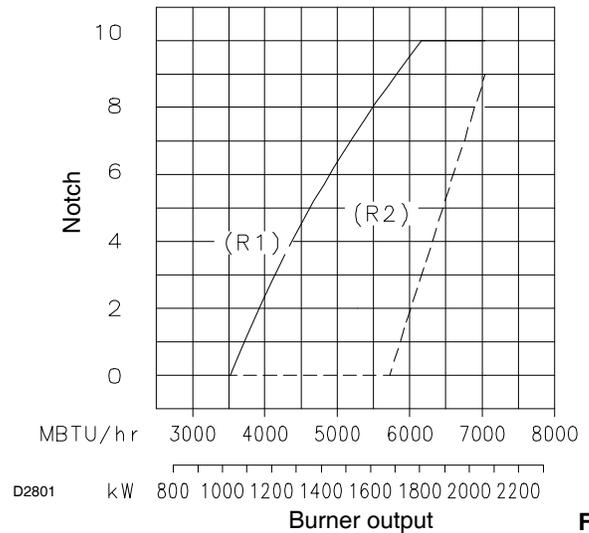

Fig. 16
In diagram (Fig. 16) find the notch for:
If we consult diagram (Fig. 16) we find that for this output the adjustments are:
R2 adjustment (Fig. 16) is an indication only.
- combustion head adjustment as indicated in Fig. 16, page 19.